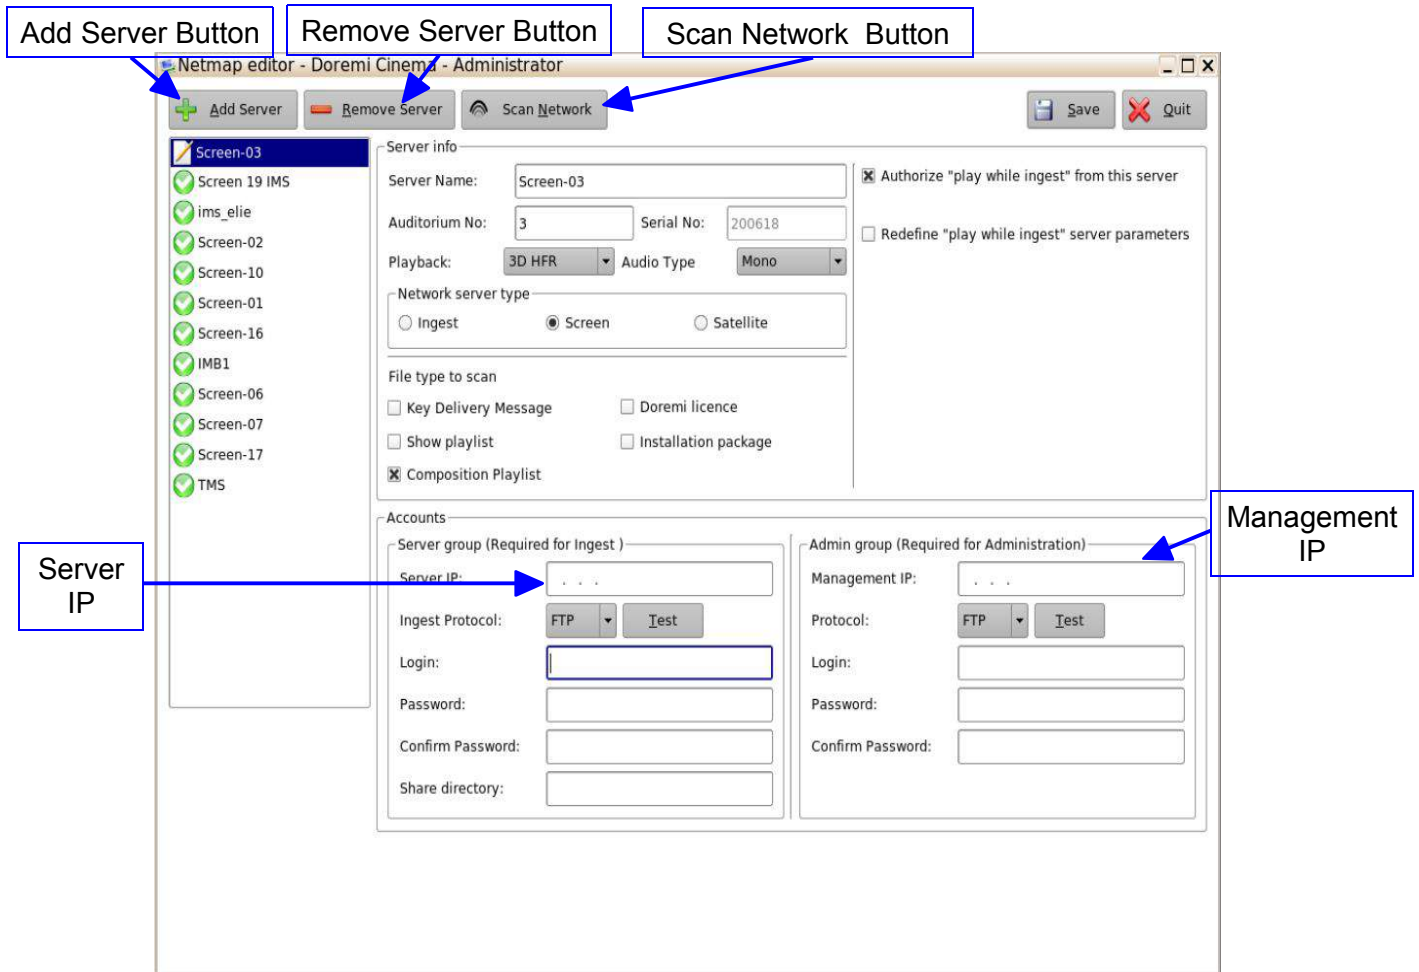

Figure 3: Add Server GUI
- The Server Edit screen will appear allowing the user to configure the screens (Figure 3).
- Fill in the required information (Figure 3).
- Input the server IP and the management IP, with their respective usernames and passwords. See Figure 3.